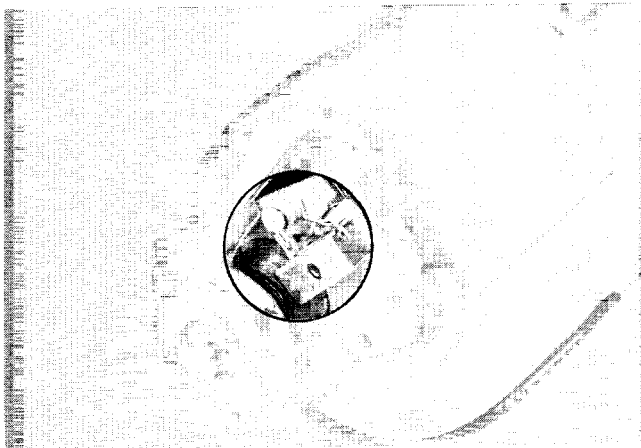

Figure 2.4
2.4 CHECK MOTOR BRUSH SPRINGS (fig. 2.4)